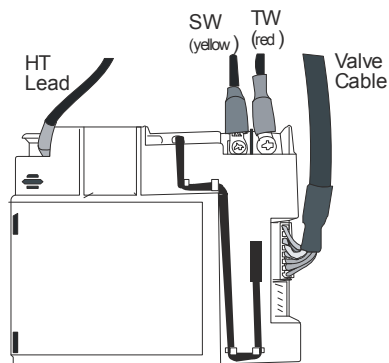

Figure 74
2. Pull out the four cables through the heat shield and connect them as shown in **Figure 74**.